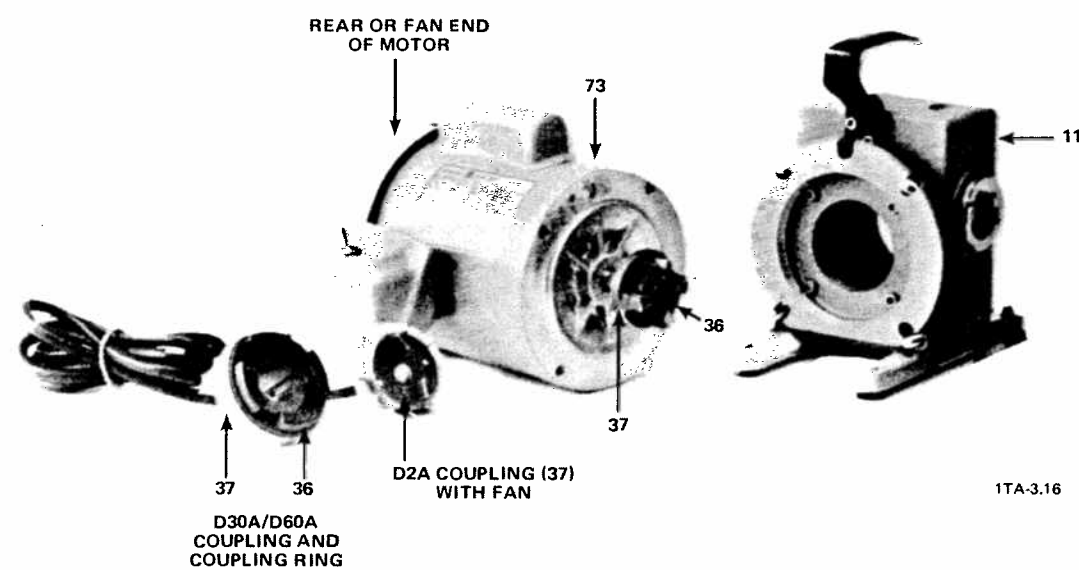

Figure 5-15. Coupling Housing and Motor (D2A Pump Model Shown)
- D-13** Using a U.S. standard wrench, unscrew and remove the four nuts and washers that attach the motor (73) to the coupling housing (11). Remove the motor from the coupling housing (see Figure 5-15).
- D-14** For the D2A, D4A, D8A, and D16A pump models only, pull the elastic element (36) off of the coupling (37) mounted on the motor shaft (see Figure 5-15).
E-7. Thoroughly clean the coupling housing (11), making certain that no dirt has accumulated in the crevices of the housing (see Figure 5-15).
- (b) Check if the fan on the rear end of the motor is rotating in the correct direction. Looking from the fan end of the motor, the fan and motor shaft should be rotating clockwise (see Figure 5-15).
- (b) Check if the fan on the rear end of the motor (see Figure 5-15) rotates.
- (2) If the motor was not supplied through Leybold or the pump has an old Leybold supplied motor, grab the motor shaft or motor fan and attempt to turn it clockwise and then counterclockwise; then proceed as follows: